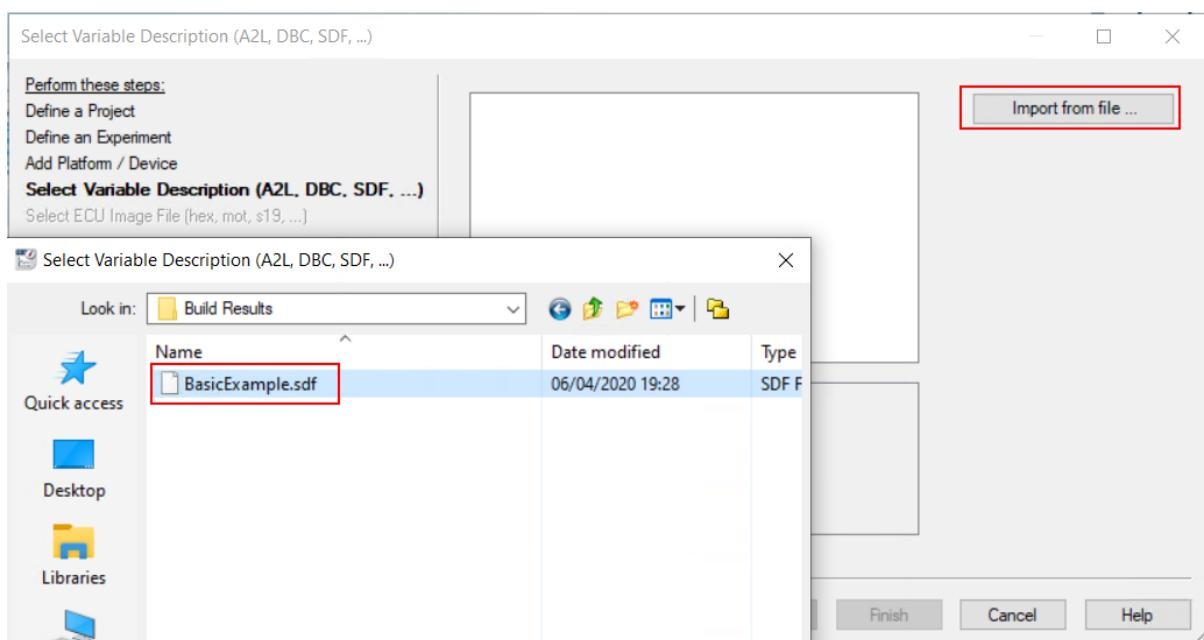

Figure 13.79: Import the variable description file.
- 5) Import the variable description file `BasicExample.sdf` in order to have access to the model variables and see the results of the execution (see Figure 13.79).